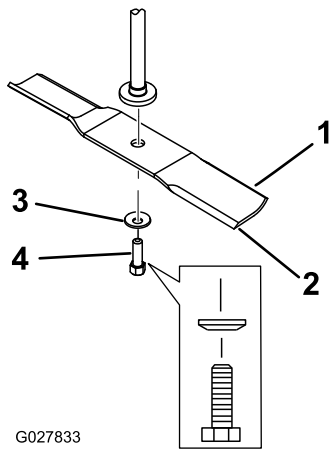

Figure 47
- Remove the blade bolt, curved washer, and blade from the spindle shaft (Figure 47).
1. Install the blade onto the spindle shaft (Figure 47).
2. Install the curved washer (cupped side toward the blade) and the blade bolt (Figure 47).